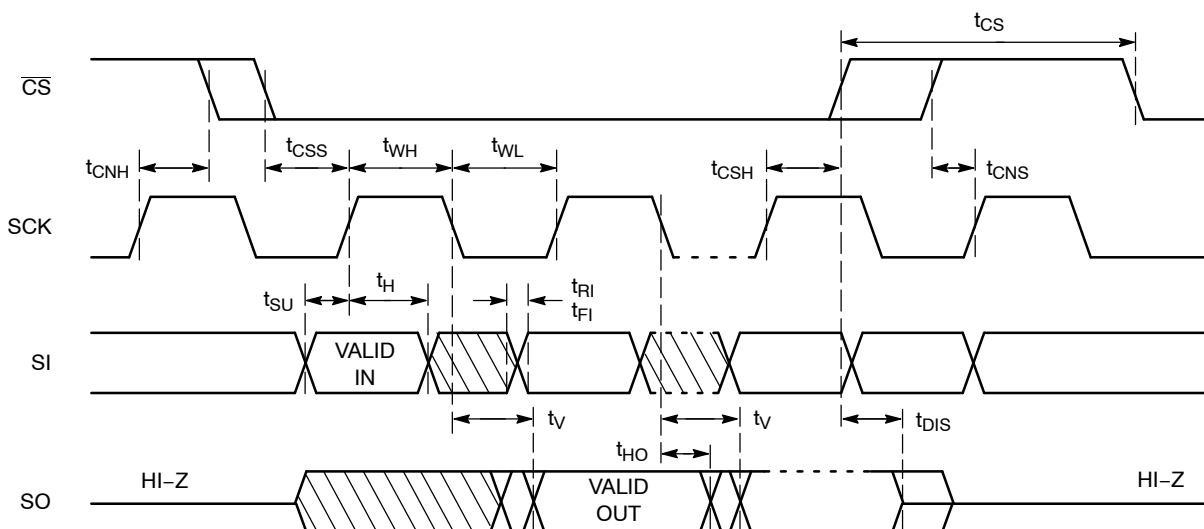

Figure 2. Synchronous Data Timing
7. **All Chip Select (CS) timing parameters are defined relative to the positive clock edge (Figure 2). t_{CSH} timing specification is valid for die revision E and higher. The die revision E is identified by letter "E" or a dedicated marking code on top of the package. For previous product revision (Rev. D) the t_{CSH} is defined relative to the negative clock edge (please refer to data sheet Doc. No. MD-1128 Rev. D).**
After a high to low transition on the \overline{CS} input pin, the CAT25640 will accept any one of the six instruction op-codes listed in Table 7 and will ignore all other possible 8-bit combinations. The communication protocol follows the timing from Figure 2.